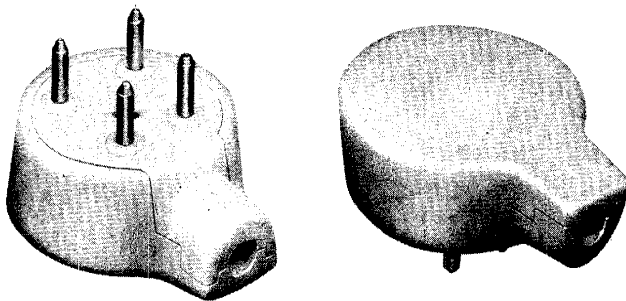
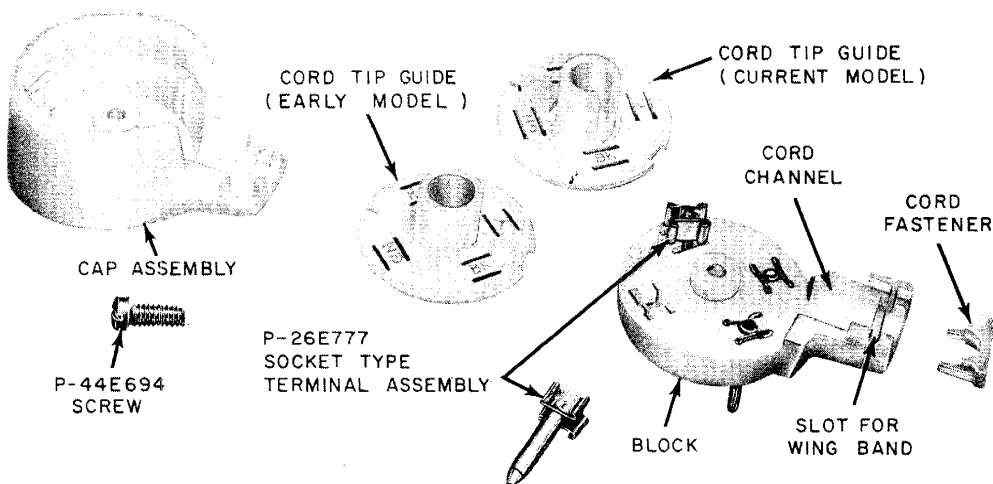

Fig. 3—505A Plug
Fig. 4—505A Plug Disassembled
2.04 The 505A plug (Fig. 3) is a 4-contact plug similar to the 504A plug; in addition, however, it has a cord fastener (Fig. 4) which holds the cord in place while spade tips are being connected. The cord fastener also anchors the mounting cord in the assembled plug.
2.05 The current model cord tips guide is shown in Fig. 4. It provides a cutout to permit the use of a cord equipped with a flat eyelet stay band.
- (1) Fit the cord tip guide into place on the top of the block.
- (2) Position the mounting cord into the cord channel of the block so that the cord wing band fits into the wing band slot (Fig. 4). One ear of the wing band will extend into the wing band slot of the cord fastener.
- (3) Fit the cord fastener into the groove in the cord channel and press until it snaps into position.
- (4) Arrange the mounting cord spade tips in the socket-type terminals.
- (5) Adjust the conductors so that they will not obstruct the center of the cord tip guide.
3.09 Connections for the 423A plug (Fig. 3) are as follows: